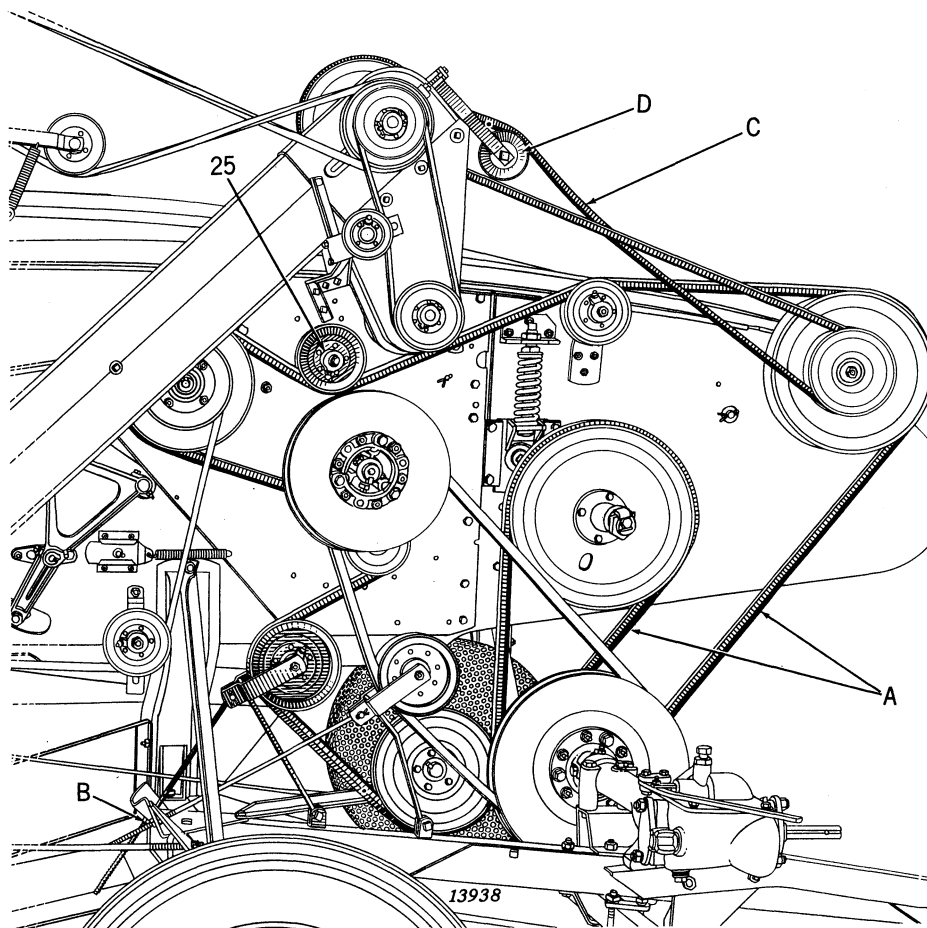

Figure 12
25. (Figure 12) Attach new upper idler sheave with longer bolt furnished
27. Attach separator drive belt "A," Figure 12 as shown. A transfer on the separator side sheet shows the correct way to place belts on sheaves. After main drive gear case is attached, adjust tightener sheave at "B," Figure 12, so belt is just tight enough to run without slipping.
28. Attach tailings elevator drive belt "C," Figure 12, as shown. Tailings elevator drive belt is kept at correct tension by tightener "D," Figure 12. No adjustment is required.
The setting up of V-belts on a combine equipped with feed rolls is the same except for the arrangement of idlers for the separator drive belt. Install this belt as shown at "A," Figure 12. For the balance of V-belt installation instructions see "V-BELTS" in Operator's Manual OM-H4.